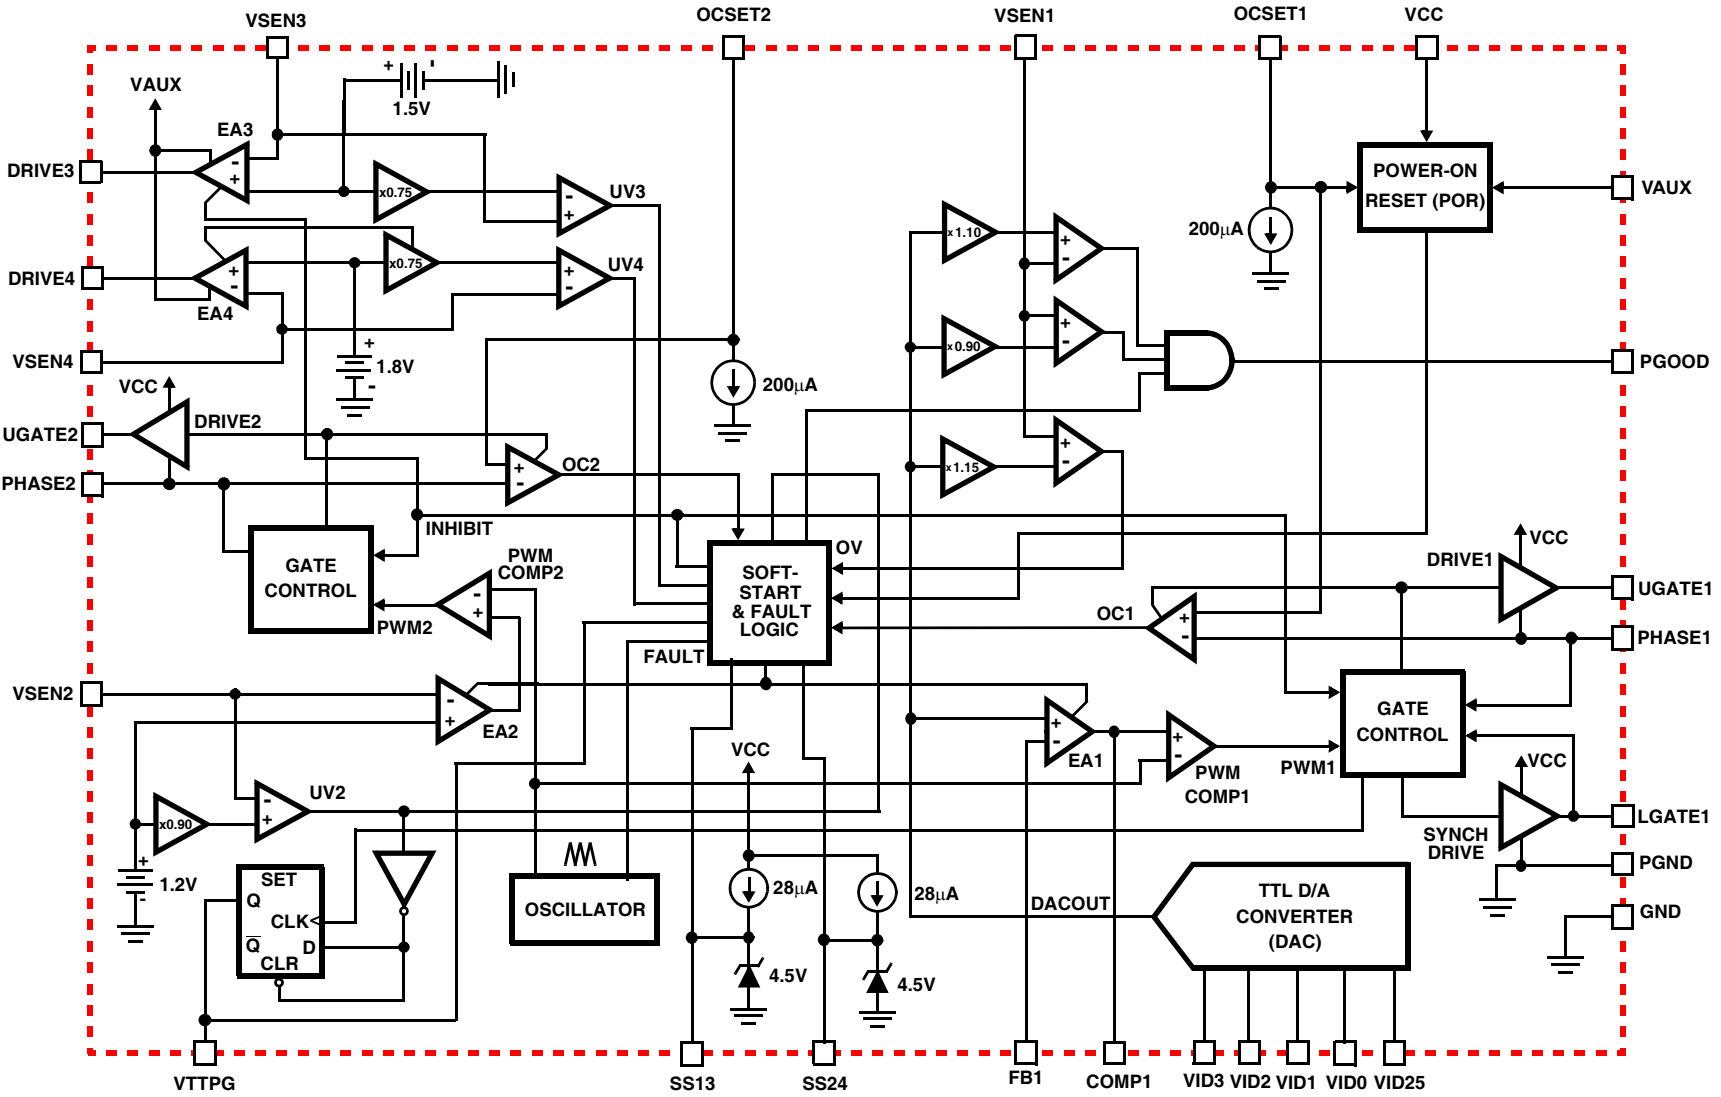

FIGURE 1. BLOCK DIAGRAM
**Electrical Specifications** Recommended Operating Conditions, Unless Otherwise Noted. Refer to Figures 1, 2 and 3
**Electrical Specifications** Recommended Operating Conditions, Unless Otherwise Noted. Refer to Figures 1, 2 and 3 (Continued)